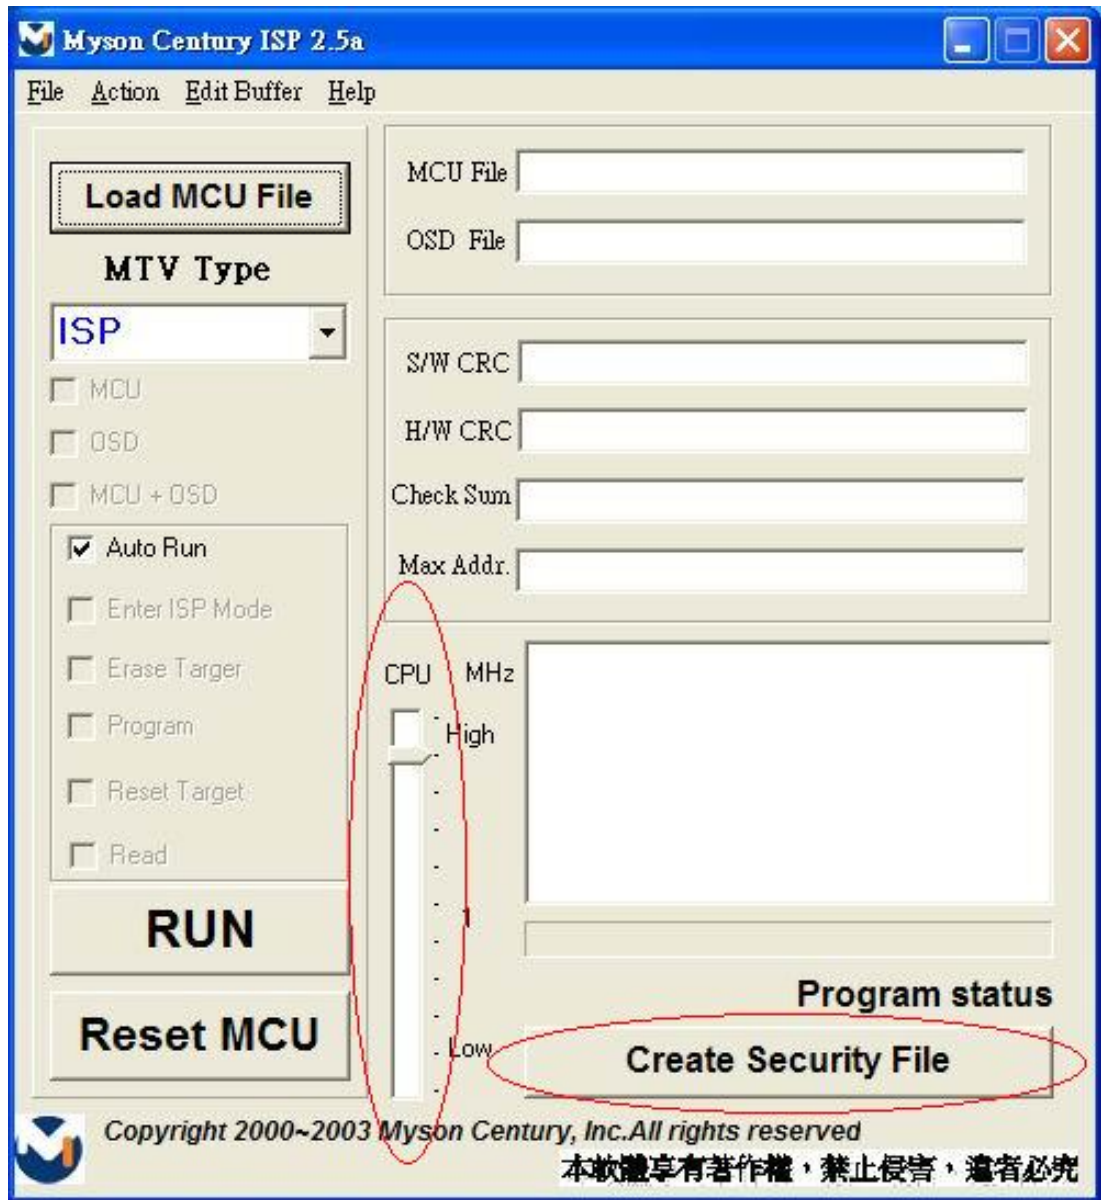

Fig. 2.5
5. Fig 2.5 shows the settings for the ISP software's security code. It requires two command numbers, and the commands must be keyed in sequentially: 7C, 4C, 77. The command numbers and commands must be set by the user while coding. For more details, please refer to section 6 boot code of ISP.